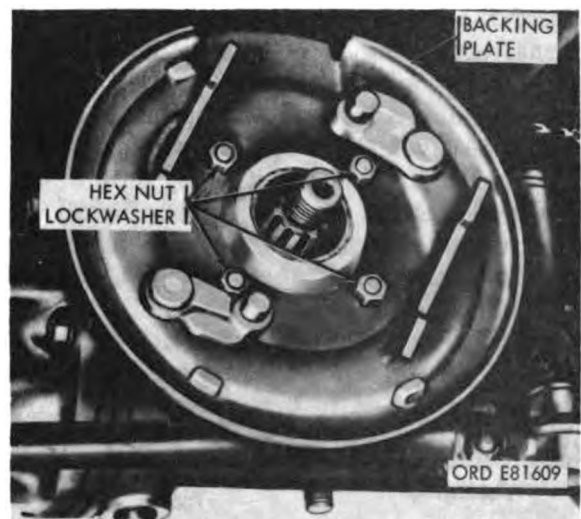

Figure 2-72. Removing or installing brake backing plate.
- (11) Remove four hex nuts and lockwashers securing brake backing plate to axle, and remove plate (fig. 2-72).